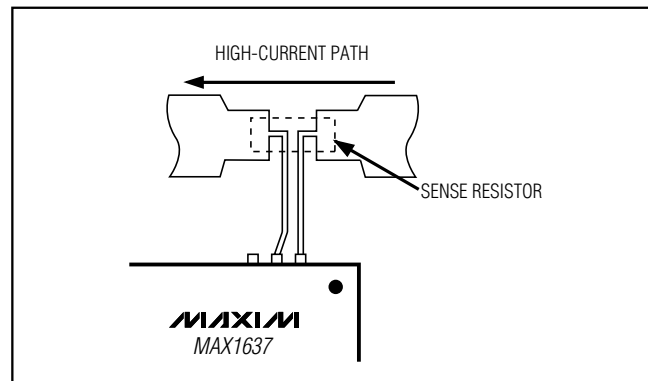

Figure 8. Kelvin Connections for the Current-Sense Resistors
- *Minimize current-sense resistor trace lengths* and ensure accurate current sensing with Kelvin connections (Figure 8).